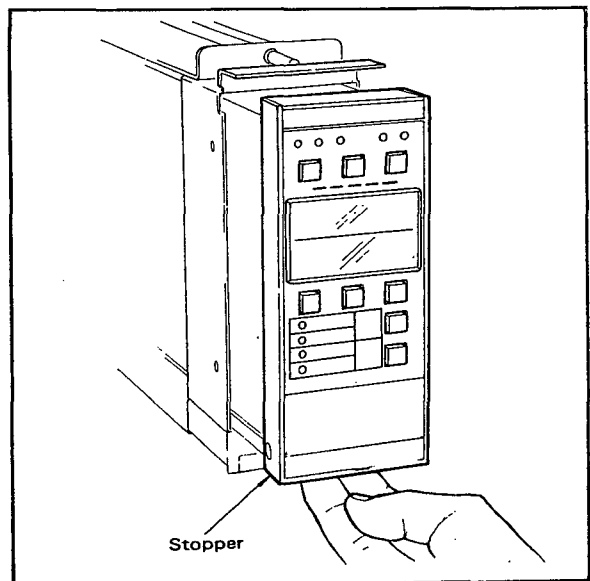

Figure 5-3-1. Removing Instrument Module.
- ① Push up the stopper, located below the front panel of the instrument module, to remove it. When it is drawn out halfway, the instrument module is stopped by an intermediate stopper. (Figure 5-3-1).